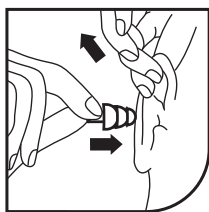

Fig. 1
1. Insert rounded earplug tip into ear canal while pulling ear outward and upward with opposite hand. (Fig. 1)